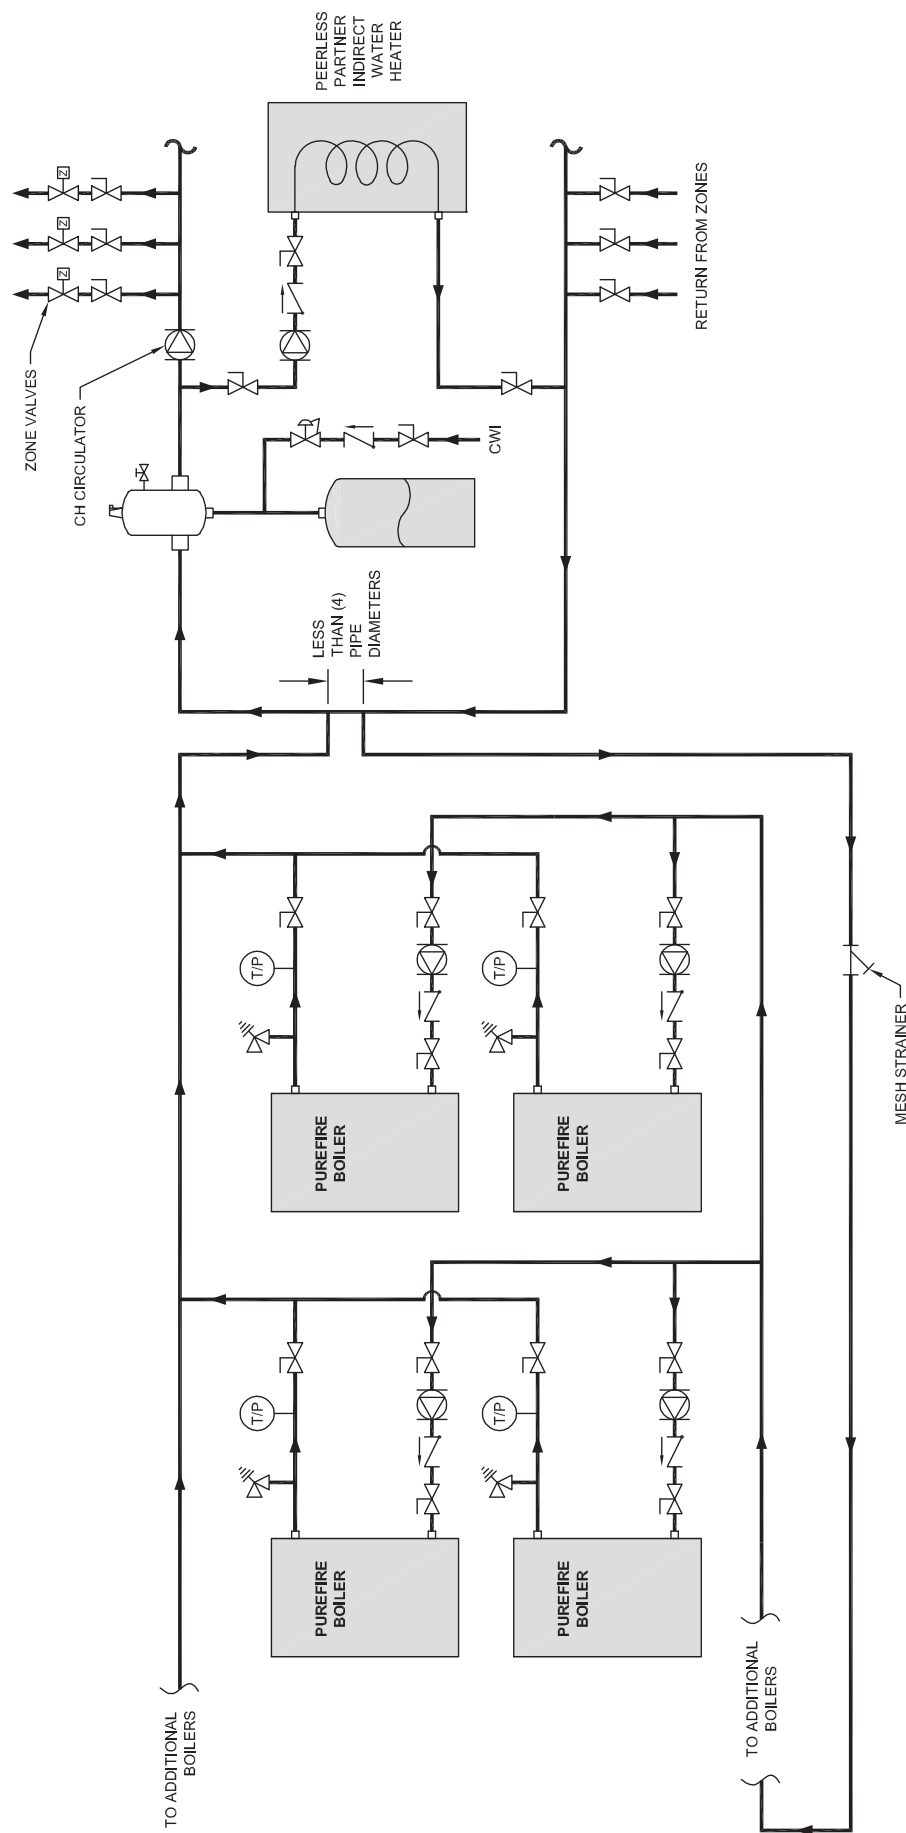

Figure 4.7: Alternate Piping – Multiple Boilers with Multiple CH Zones (Zone Valves) & One DHW Tank
4. Figure 4.7 shows a multiple boiler configuration which uses zone valves instead of zone circulators. Systems which combine both zone valves and zone circulators can help to minimize electrical loads if there are small zones in the system. Contact your PB Heat, LLC representative for assistance with larger systems.